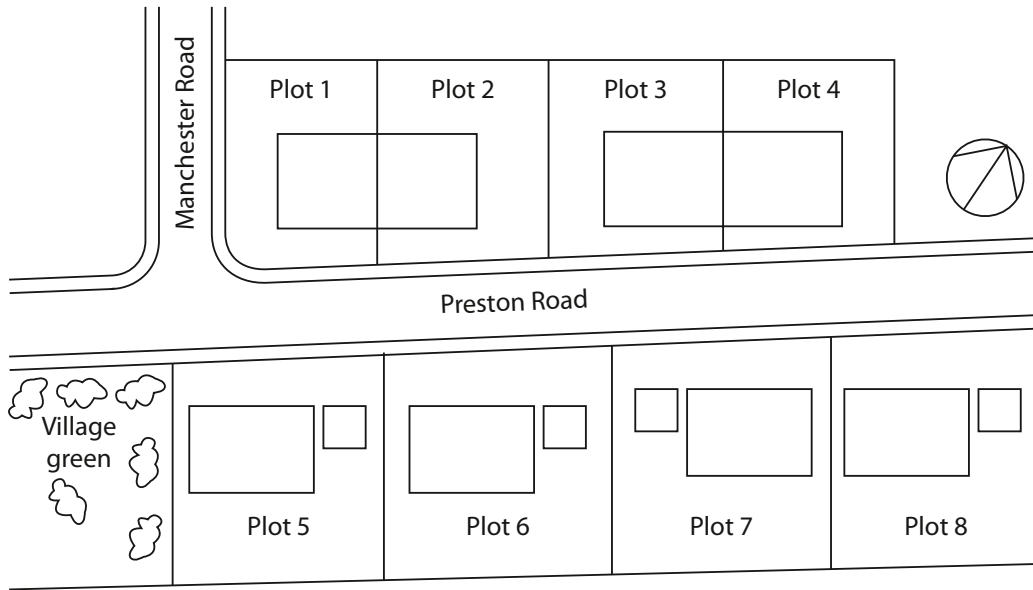

Figure 2.01 Block plan
- **block plans**, which identify the proposed site in relation to the surrounding area (see Figure 2.01). These are usually drawn at a scale of 1:2500 or 1:1250